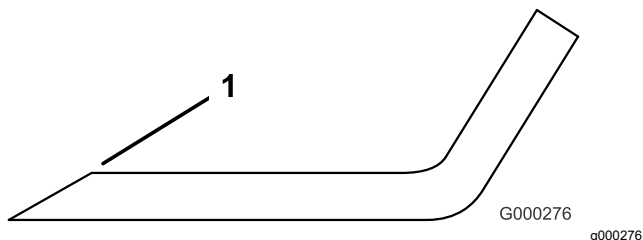

Figure 26
1. Sharpen the cutting edge at both ends of the blade (Figure 26).